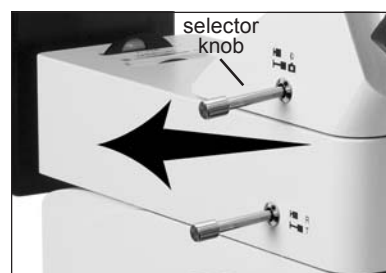

Figure 47
39. Use the prism selector knob, located on the left side of the microscope head (figure 47), to divert the image from the eyepieces to the camera. The system uses a 100/0 split sliding prism to divert 100% of the light to the camera port when selected. This provides the brightest image possible to the camera which can be critical for certain photomicrographic applications.